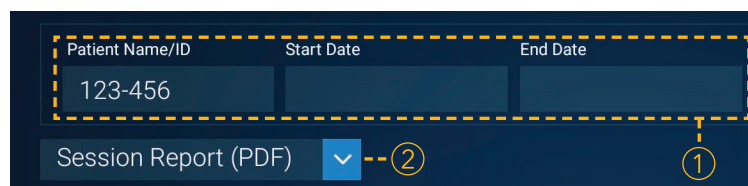

Figure 45. Options to filter located on the Reports screen
2. (Optional) Filter reports using patient name/ID or a date range (Figure 45-①).
3. (Optional) Use the dropdown menu to select by file format as needed (Figure 45-②).